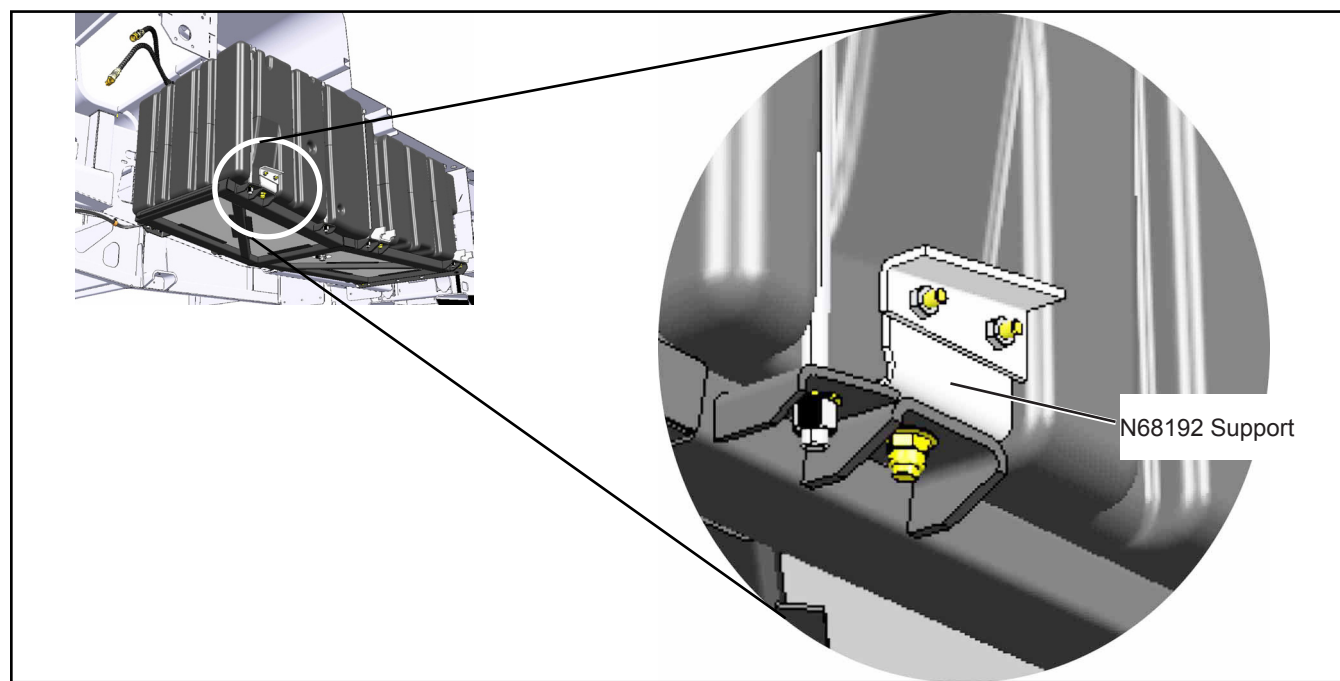

Figure 15 - N68192 Cradle Support Installation
- 1.27. Install the N68192 cradle support with two N43774 bolts. See Figure 15.